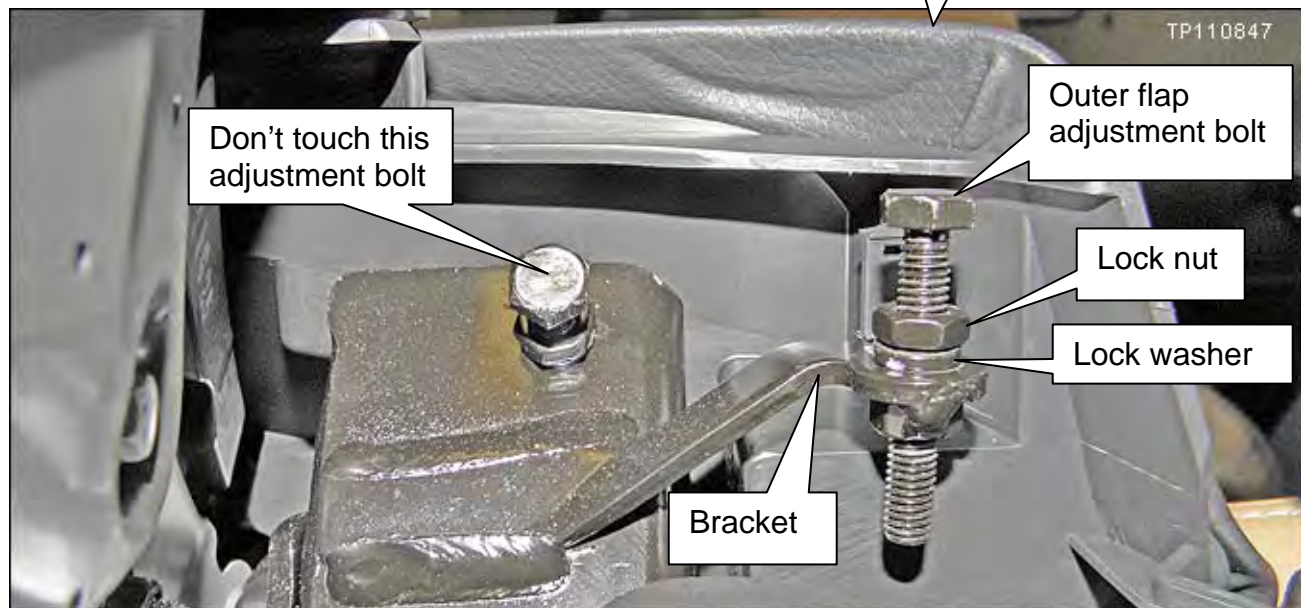

Figure 3
3. Remove the outer flap adjustment bolt from the bracket (see Figure 3).